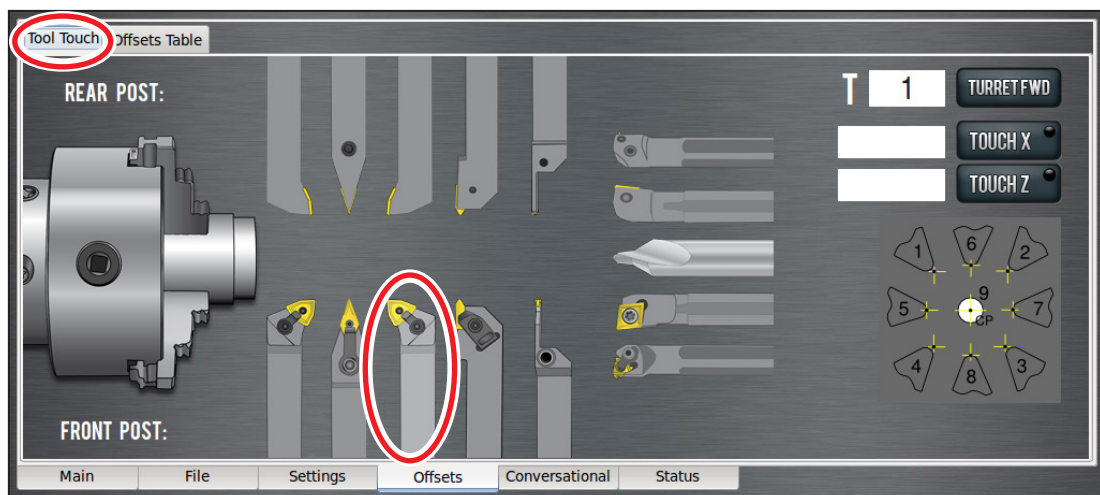

Figure 4.11
The actual method differs depending on whether you have a gang, turret, or quick change tooling setup. For the purposes of this instruction, we assume you have the quick change setup and that you have adjusted your quick change tool holders to centerline height. Make sure that there are no tool geometry offsets currently applied by clicking *Reset Tool* on the *Offsets* screen (see **Figure 4.12**), which clears the geometry offsets for the currently loaded tool. If the *Offsets* screen displays a selection of tools (see **Figure 4.11**), this indicates no tool offsets have been applied.
2. Click on the *Tool Touch* tab on the *Offsets* screen and select the front tool post, right-hand turning tool (see **Figure 4.11**).
5. You should see the tool type selection screen again (see **Figure 4.11**). Select the front tool post parting tool (unless using a rear tool post parting tool, in which case you should select the rear tool post parting tool).